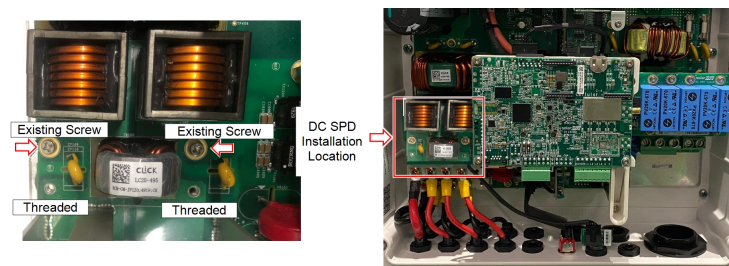

Figure 1: Location of DC SPD inside the inverter
1. Locate the installation area of the DC SPD inside the inverter enclosure (see Figure 1).
2. Remove the two existing screws from the power board (see Figure 1).